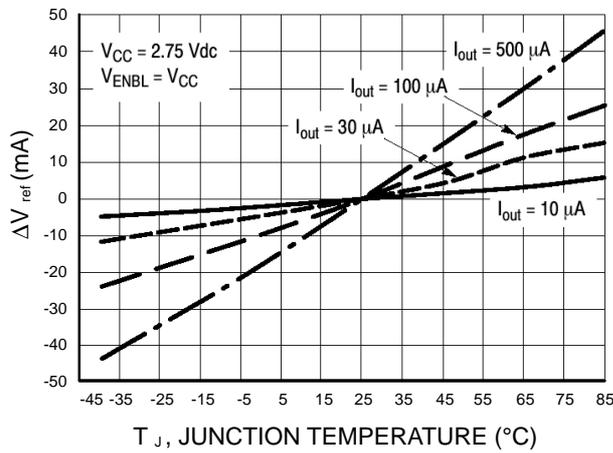

Figure 2.  $\Delta V_{ref}$  versus  $T_J$  @  $I_{out}$
See Figures 2 and 11
- Step 4: Choose  $I_{out}$  keeping in mind that too large an  $I_{out}$  can impair MDC5000  $\Delta V_{ref}/\Delta T_J$  performance (Figure 2) but too large an  $R_6$  can cause  $I_{DGO}$  &  $I_{GSO}$  to bias on the FET.